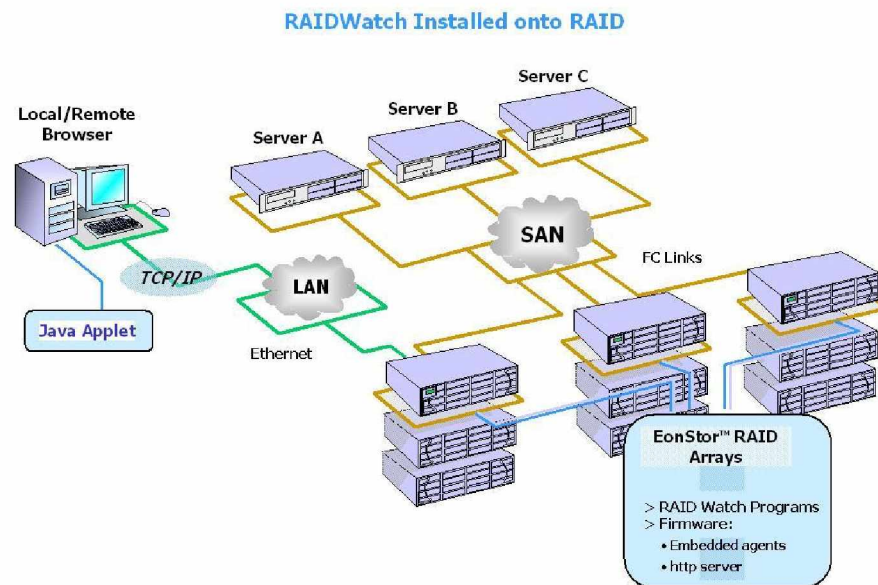

Figure 1-5: Typical StorageWatch Connection – Applet Mode
3. **Stand-alone/Out-of-Band (on Host) installation:** This installation provides management access with no centralized management utility. Event notification is provided through an independent NPC utility. StorageWatch accesses RAID subsystems over the network through the command exchanges between a manager station and StorageWatch programs that exist in array hard drives. See *Figure 1-5* for more details. The management session and the NPC configuration screen are provoked as Java Applet.